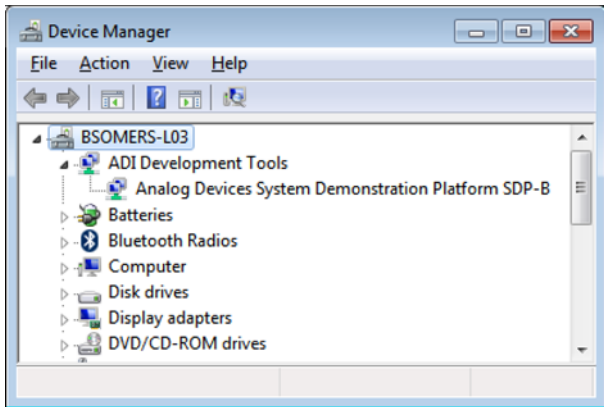

Figure 14. **Device Manager** Window
- d. Select **ADI Development Tools** (see Figure 14).